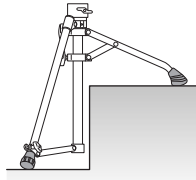

Fig.3
b) Using on Uneven Surface (As shown in Fig. 3)